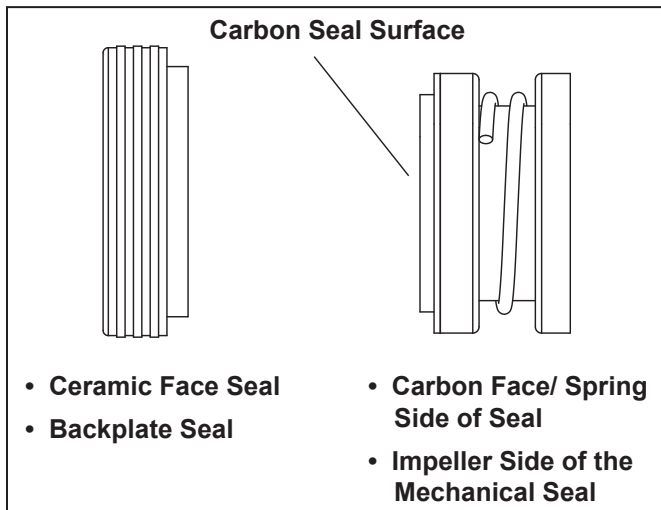

Figure 2. Replace the Mechanical Seal
6. Remove the carbon face seal half from the impeller. Refer to Figure 2 and 3. This is a spring-loaded seal. Grasp the portion of the seal closest to the impeller body and pull the seal off using a twisting motion.
10. Press the new carbon face seal half (see Figure 2) on the impeller using a twisting motion. Make sure the carbon surface is facing toward the ceramic ring in the backplate.